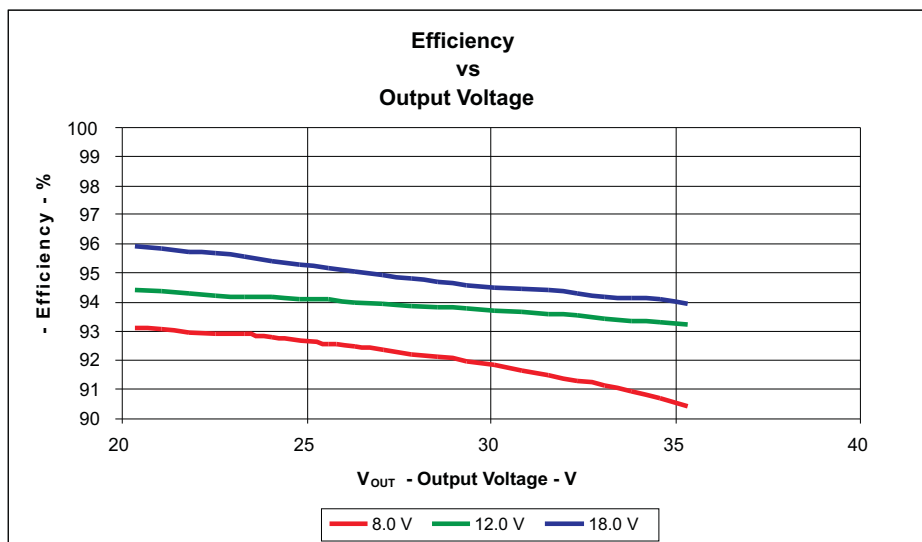
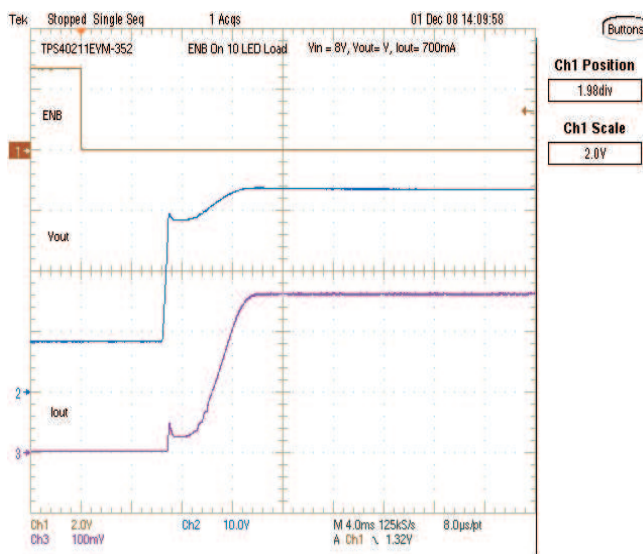

Figure 4. TPS40211EVM-352 Efficiency verse Output Voltage
Figure 10. TPS40211EVM-352 Enable ON Soft-Start
1. Connect 1-kHz to 1-MHz isolation transformer to TP4 and TP5 as show in Figure 4
2. Connect input signal amplitude measurement probe (Channel A) to TP4 as shown in Figure 4
3. Connect output signal amplitude measurement probe (Channel B) to TP5 as shown in Figure 4
4. Connect ground lead of Channel A and Channel B to TP3 and TP6 as shown in Figure 4
Figure 4 through Figure 10 present typical performance curves for the TPS40211EVM-352. Since actual performance data can be affected by measurement techniques and environmental variables, these curves are presented for reference and may differ from actual field measurements.